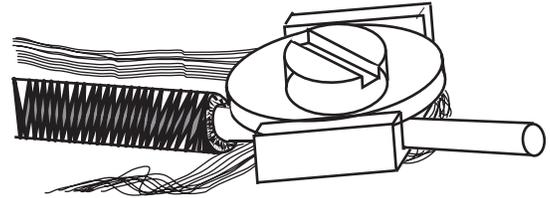

Figure 8
- b. Install the U-shaped washer as shown in Figure 8.